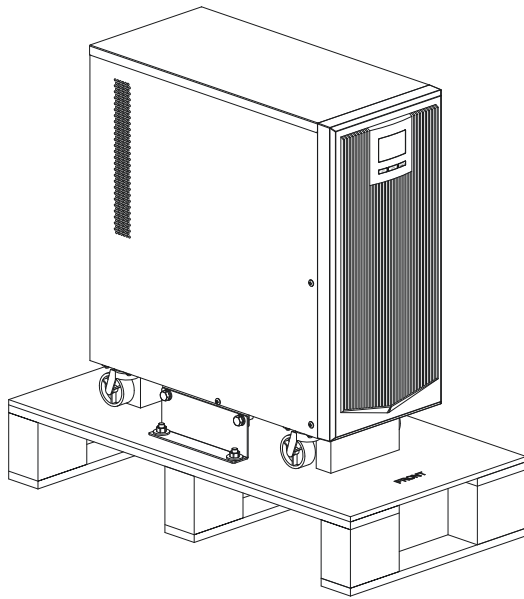

Figure3-1 Appearance after unpacking
- Step 4 Remove the package and take out the optional components and user manual. The appearance after unpacking is as shown in Figure3-1.